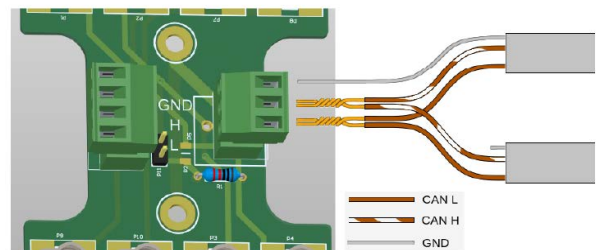

Fig. 56: Connecting communication cables to the Enelion VERTICAN board (for the Enelion VERTICA pole equipped with a Enelion VERTICAN module).
- For an ENELION VERTICA pole equipped with an ENELION VERTICAN module, secure the cables in the screw terminal connector (winder) according to the markings on the ENELION VERTICAN base plate (see Fig. 56)